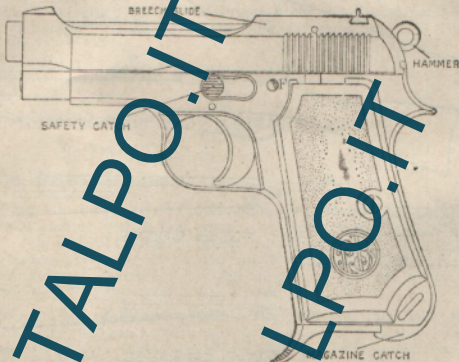

FIG. 3.—9 MM. S. W. PISTOL 34
4. 9 mm. Self-loading Pistol, Mod. 34—Beretta. (See Fig. 3)